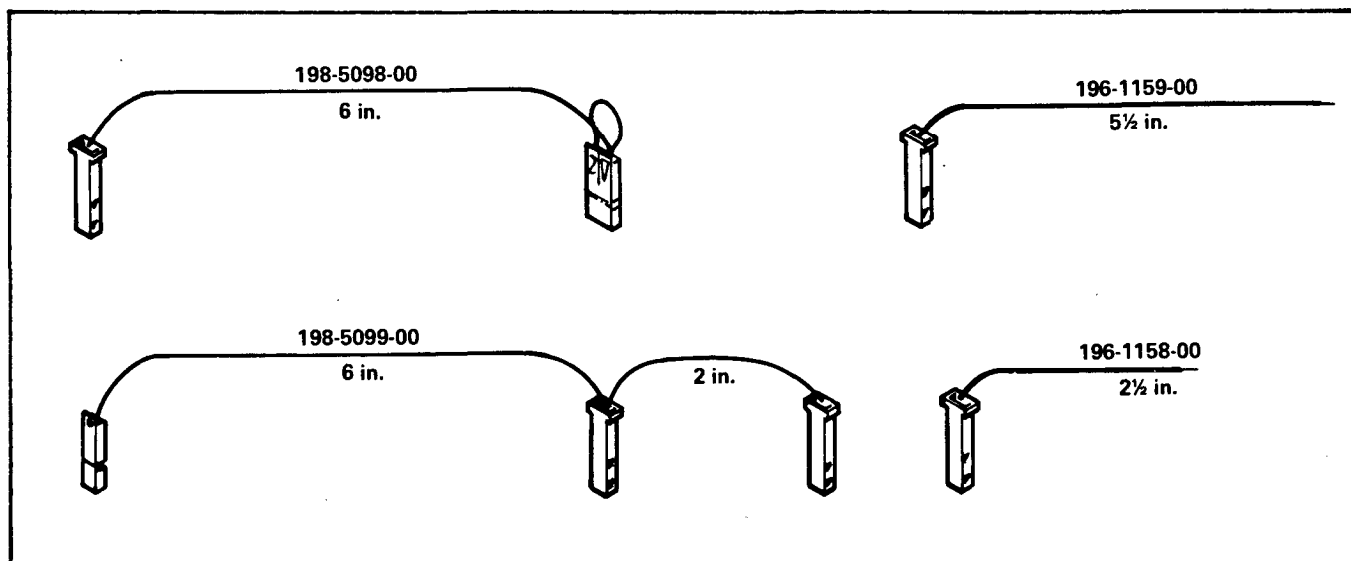
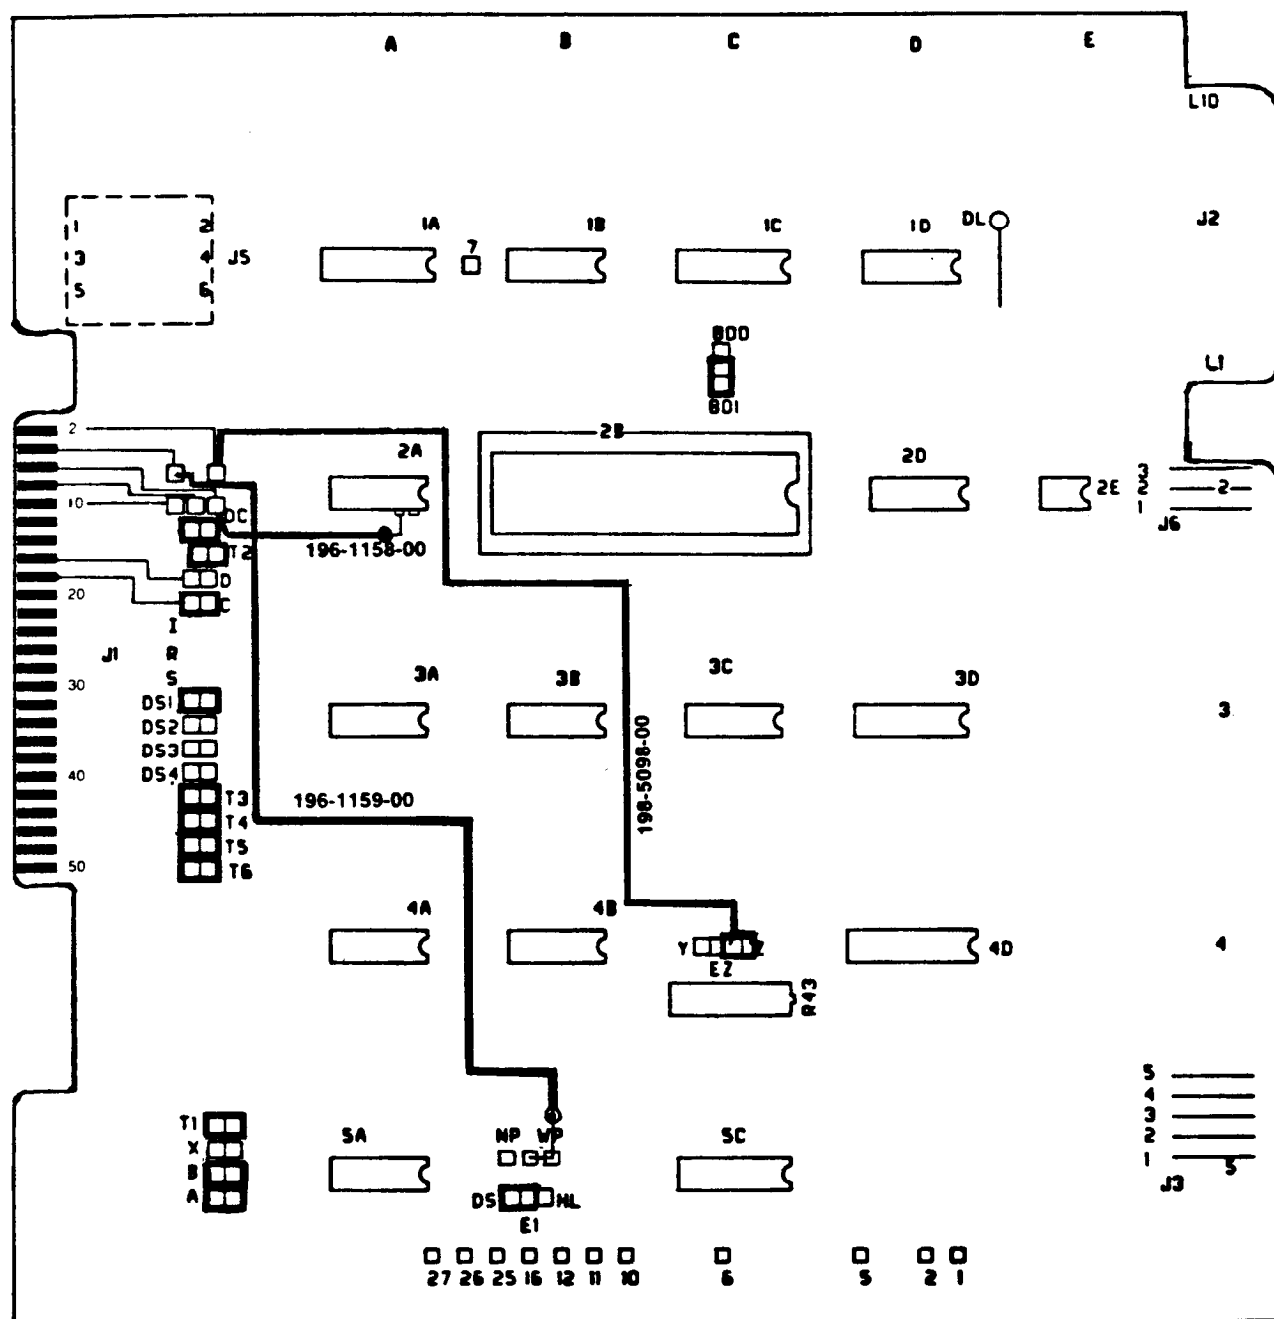

Figure 2.
Figure 6.
Refer to Figure 6 for locations of the wire to be attached in the following procedures. Refer to Figure 2 for description of the wires used in this procedure. Note that the 198-5099-00 wire is not used in the 4907.
- 6) Connect the other end of the 196-1159-00 wire to the square pin connected to Pin 4 of the edge connector as shown in Figure 6.